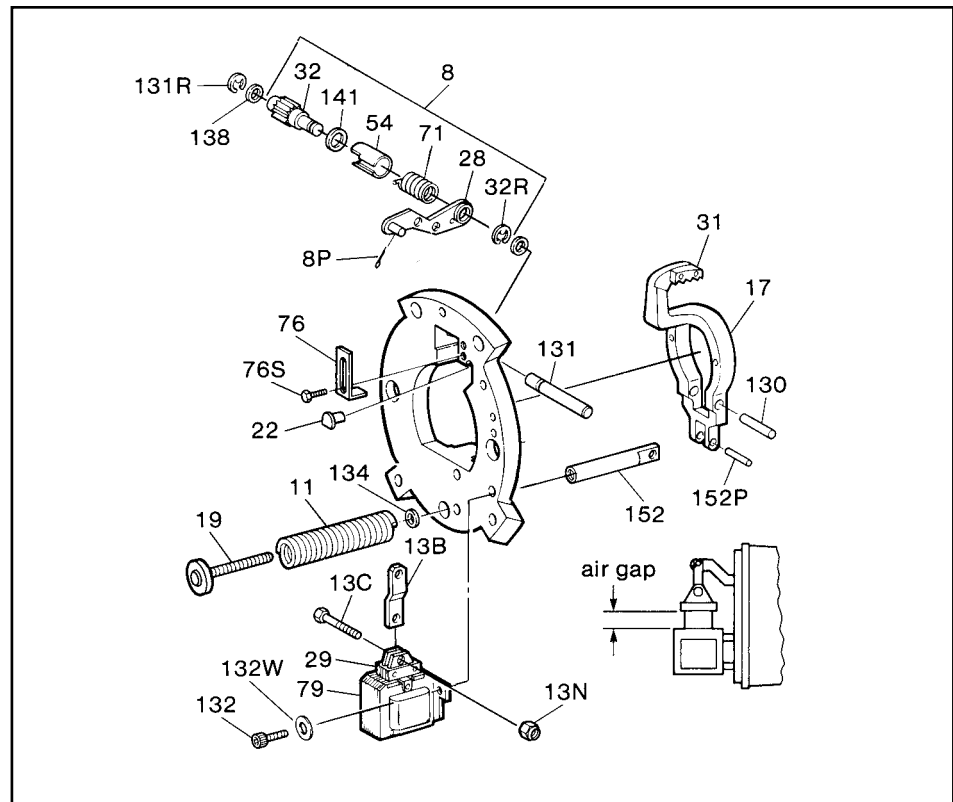

Figure 6
H. Mount support plate assembly, torque screws to 50 in-lbs in endplate. Conical spring washer installed under the screwhead. Flat washer used under the conical spring washer only with aluminum support plate. Be sure that assembly is mounted with the solenoid in a vertical position (plunger above frame) as shown when brake is horizontal. If plunger is not tied down and has allowed the mechanism to over adjust, it will have to be reset before mounting support plate. In this case the lever arm (17) throat will be near, or touching, the pinion (32) teeth. Refer to Figure 6 and Self-Adjust Maintenance. Loosen pressure spring cap screw (19) until pressure spring (11) is free, mount support plate assembly to endplate, and retighten spring cap screw until snug. Do not overtighten! Torque to a maximum of 100 in-lbs.
K. Assemble housing and shaft assembly, rotating shaft (35) to engage key
D. Self-adjust maintenance (See Figure 6)